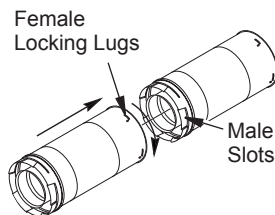

Figure 9 - Vent Pipe Connections
Twist-Lock Procedure: Female ends of pipes have locking lugs (indentations). These lugs will slide straight into matching slots on male ends of adjacent pipes. Push pipe sections together and twist one section clockwise approximately one-quarter turn until sections are fully locked (see Figure 9).
etrated is constructed of noncombustible material, such as masonry block or concrete, a 8 1/2" hole with zero clearance is acceptable (see Figure 9).
2. Assemble desired lengths of pipe and elbows necessary to reach from fireplace flue up through firestop. Be sure all pipe and elbow connections are fully twist-locked (see Figure 9, page 11).